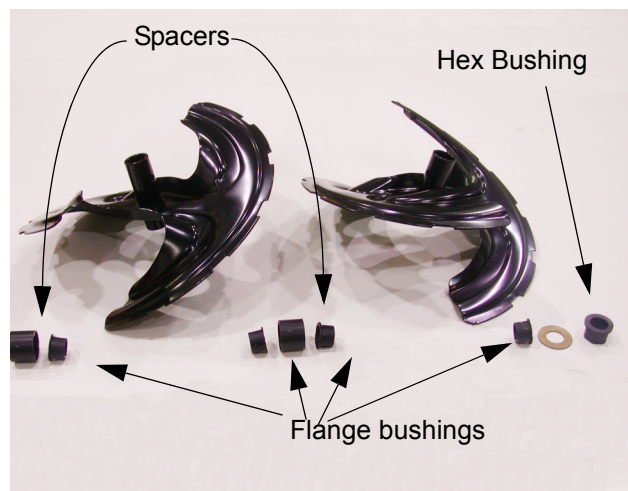

Figure 14.9
- 14.9. Inspect the spacers, and bushings and check for possible damage to augers. See Figure 14.9.